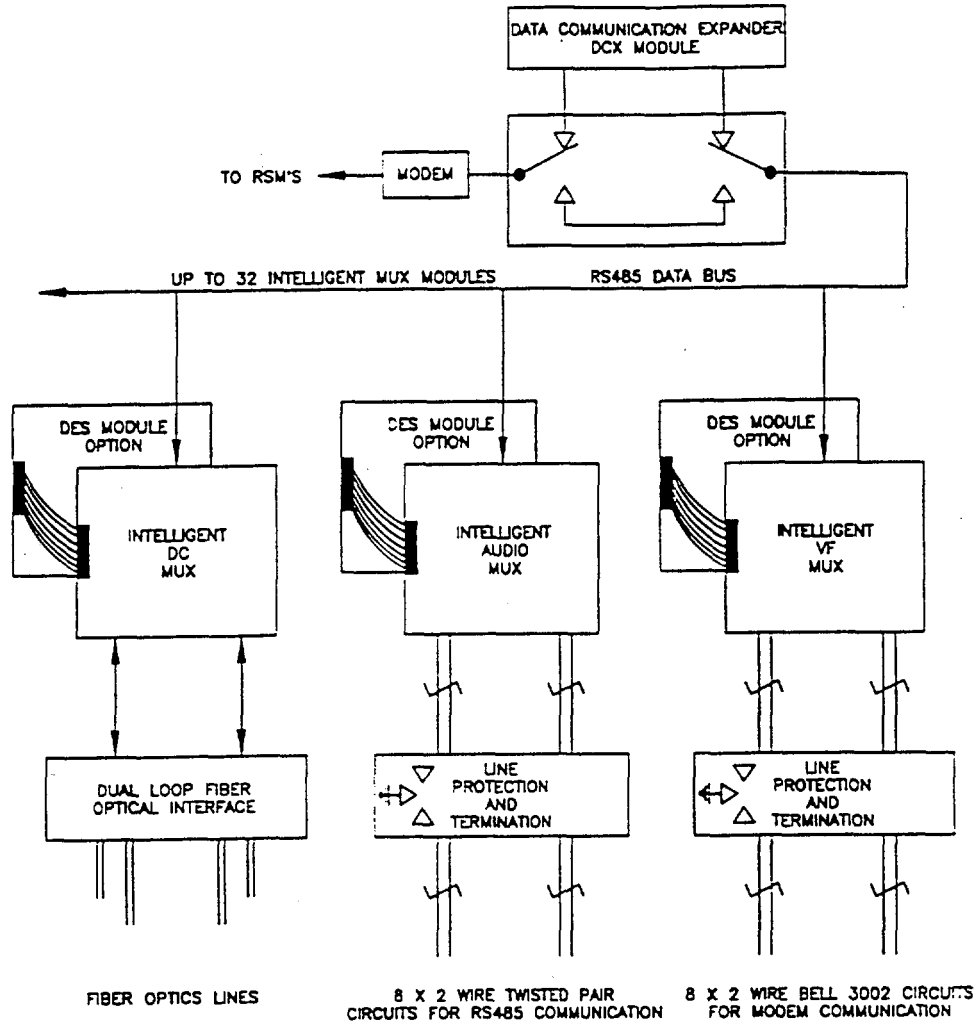

Figure 1-24. ICIDS Line Concentrator-General Block Diagram
c. Line Concentrator. A more detailed diagram of the line concentrator area is shown in Figure 1-24, ICIDS Line Concentrator Block Diagram. Three different line options are indicated on this diagram, Bell 3002 two wire circuits, RS-485 two wire circuits, and dual loop fiber optic circuits. These circuits can be mixed as long as a group of eight are all the same type. The concentrator handles thirty-two groups of eight lines each, for a total of 256 lines. Also a DES module can be added to any group of 8 lines by a simple plug in arrangement. When the DES module is not required, shorting links are used to bypass it.